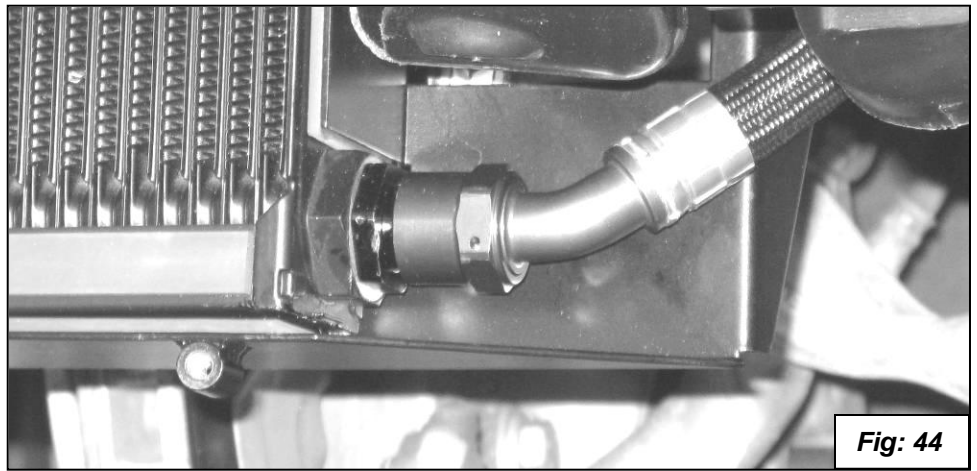

Fig: 44
34. Connect the **non-swivel** end of the Lower Oil Line to the lower fitting on the Oil Cooler after routing the Line under the Upper Line as shown in **figure 44**. **Always start this type of fitting by hand for several turns before using a wrench to avoid cross-threading the aluminum threads.**